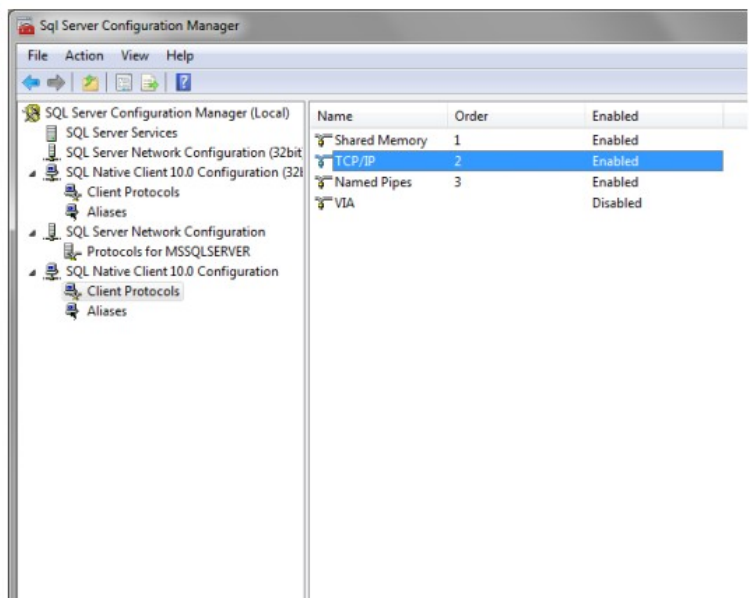

Fig.1.13 SQL Server Configuration Manager
**Step Twelve:** Set TCP/IP of Client Protocols as “Enable” . (see Fig.1.13)